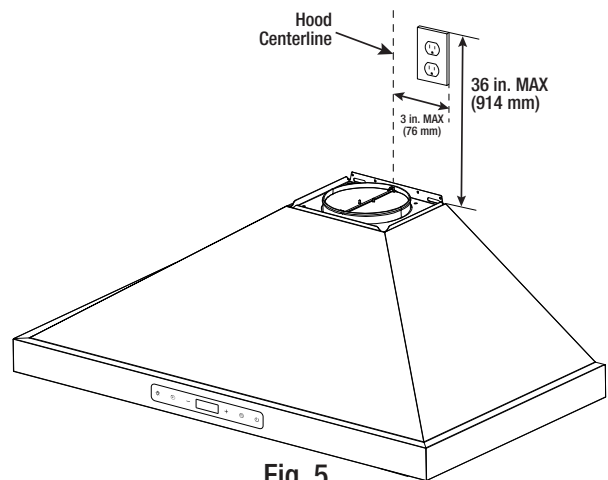

Fig. 5
- The outlet shall be located within an area covered by the decorative chimney as shown in figure 5.